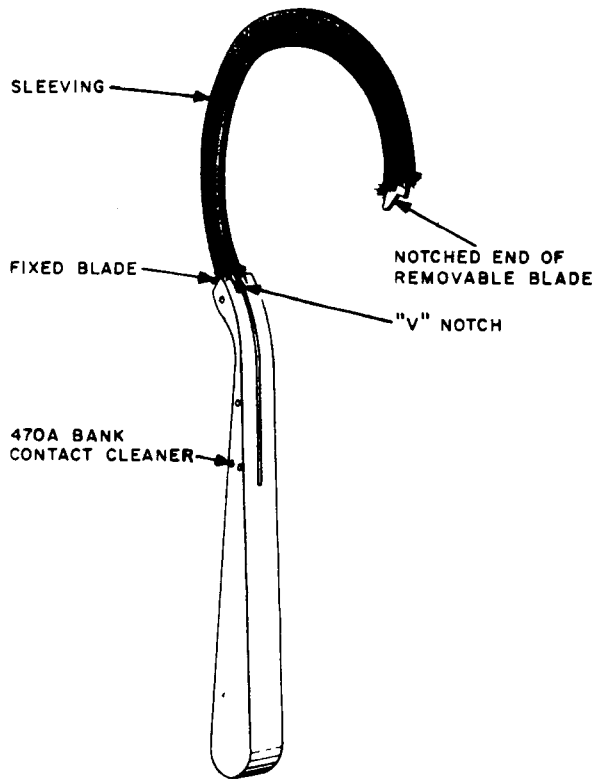

Fig. 1—Removing Sleeving From 470A Bank Contact Cleaner
3.01 To resleeve the 470A bank contact cleaner, withdraw the removable blade from the notch in the handle by pulling it up and out of the notch and swing the free end out away from the handle, as shown in Fig. 1. Hold the handle of the cleaner with one hand, and with the other hand grasp the sleeving at the end of the fixed blade near the handle. Lift the sleeving away from the inner rim of the blade to disengage it from the serrations and pull the sleeving off the fixed blade. Repeat this procedure on the removable blade while firmly holding the notched end of the blade.